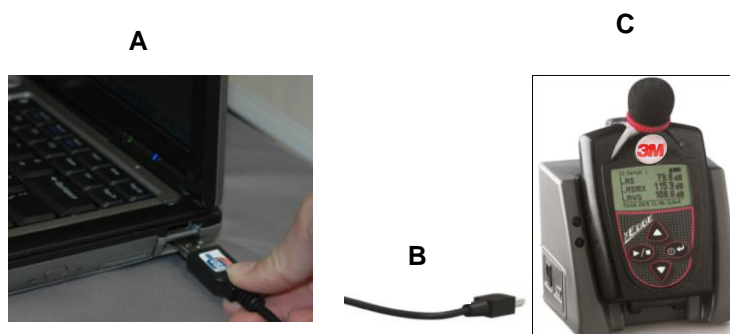

Figure 3-4: Communicating - connecting a docked Edge to a pc
2. Plug the USB cable into the computer. (See "A" in Figure 3-4).